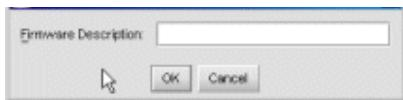

Figure 59 Modify Firmware Description dialog box
4. Select the firmware version to be modified and click **Modify**. The Modify Firmware Description dialog box is displayed (Figure 59).